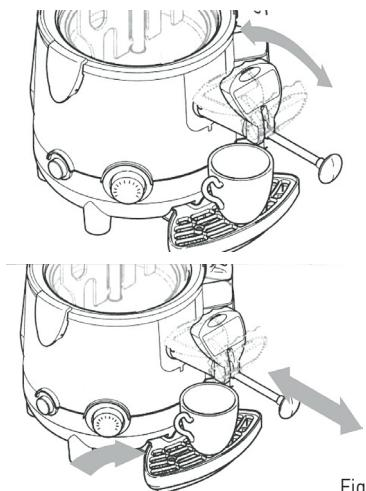

Fig. 1
- If the hot chocolate is passing too low, it is advisable to keep the rod pulled out at the maximum position; any clogging in the dispensing line may be removed by sliding the rod back and forth while keeping the machine, as shown in the Fig.1
**Caution! Danger of burns!** Do not touch the bowl lid (1) and the bowl (2) while the machine is operating since they are very hot. Always use the top knob of the bowl lid (2) for picking up.